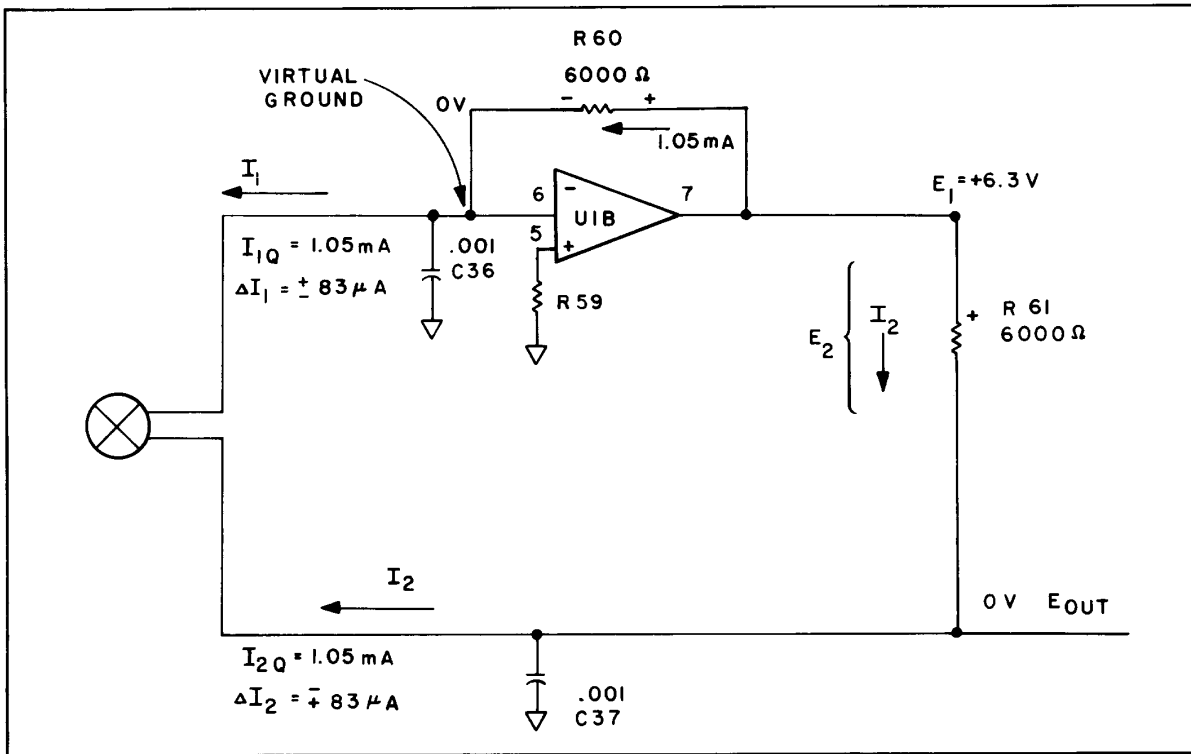

Figure 8-91. Current-to-Voltage Converter, Simplified Schematic
**Current-to-Voltage Converter.** The differential output currents from the Multiplier are converted to a voltage. This is accomplished by adding the two voltages in series opposition, which cancels the voltage generated because of the quiescent current of the Multiplier. A simplified schematic of the Current-to-Voltage Converter is shown in Figure 8-91.